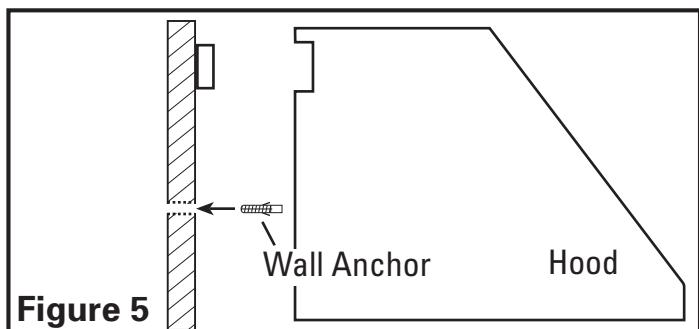

Figure 5
3. Install wall anchors by drilling holes at the marked locations on the template then installing the anchors in place. An alternative method is to rest the cavity in the back side of the hood on the wood strip and mark drilling locations on the wall for wall anchors on the bottom rear of the hood then remove hood and install wall anchors (**Figure 5**).